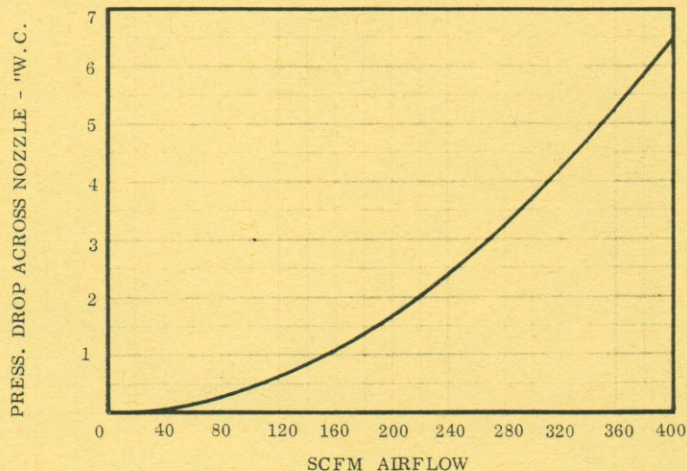

FIGURE 5
- 6.2 The differential pressure measured by the U-tube manometer will actually be a pressure drop across the burner nozzle. By using the graph in Figure 5, it will be possible to set the exact scfm air flow through the burner and into the system.